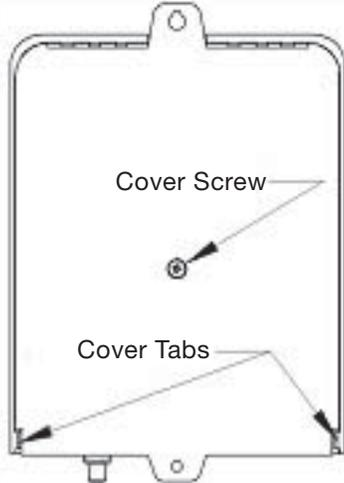

Figure 3 Cover screw and tabs
1. Remove the cover screw on the backside of the base of the EC-AGX-P (Figure 3).